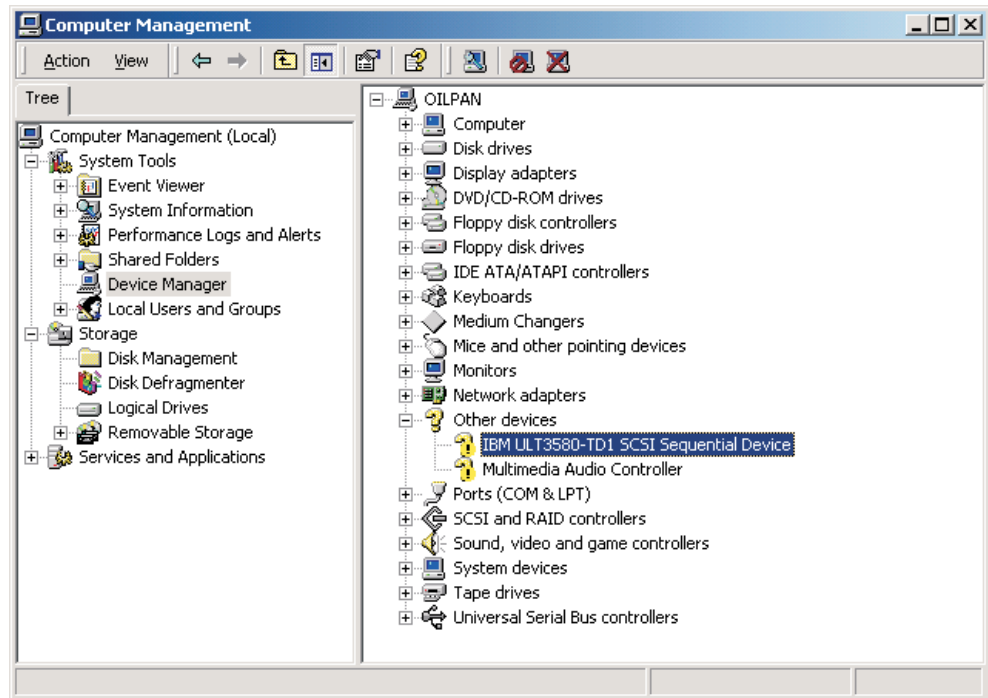

Figure 27. Computer Management Console with Ultrium Device Selected
8. In the **Device Manager** tree, find the Ultrium devices you are installing. Tape devices might be located under the Tape drives node. Changer devices might be located under the Medium Changers node. Either device could be listed as an Unknown device or could appear under the Other devices node. See Figure 27 on page 241